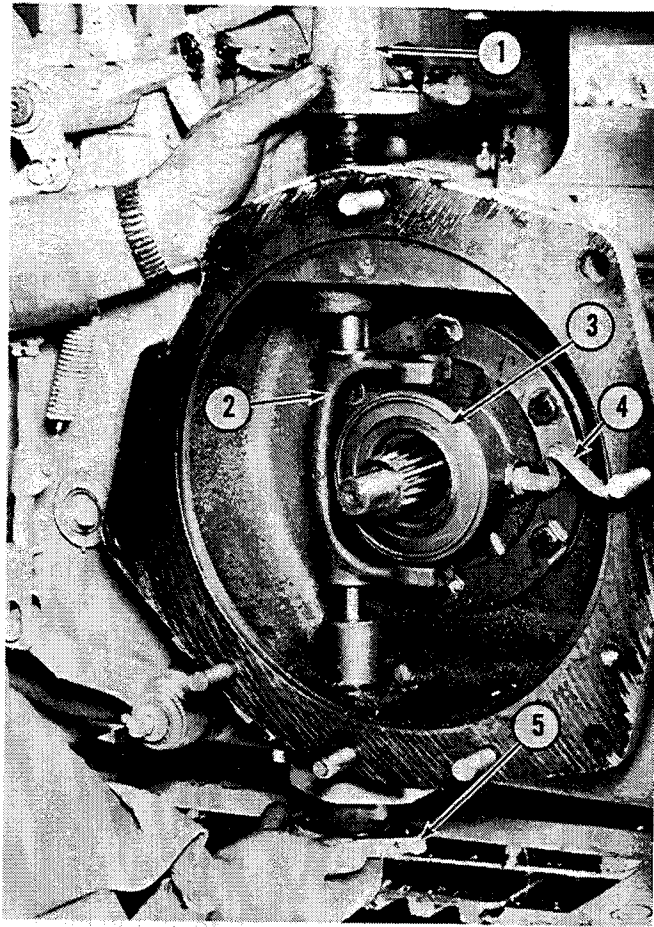

Fig. 18 — REMOVING CLUTCH RELEASE BEARING
To replace a clutch release bearing, refer to Fig. 18, and proceed as follows:
1. Disconnect clutch release bearing lubrication hose, No. 4, Fig. 18.
3. Remove upper and lower clutch release fork supports, Nos. 1 and 5, Fig. 18.